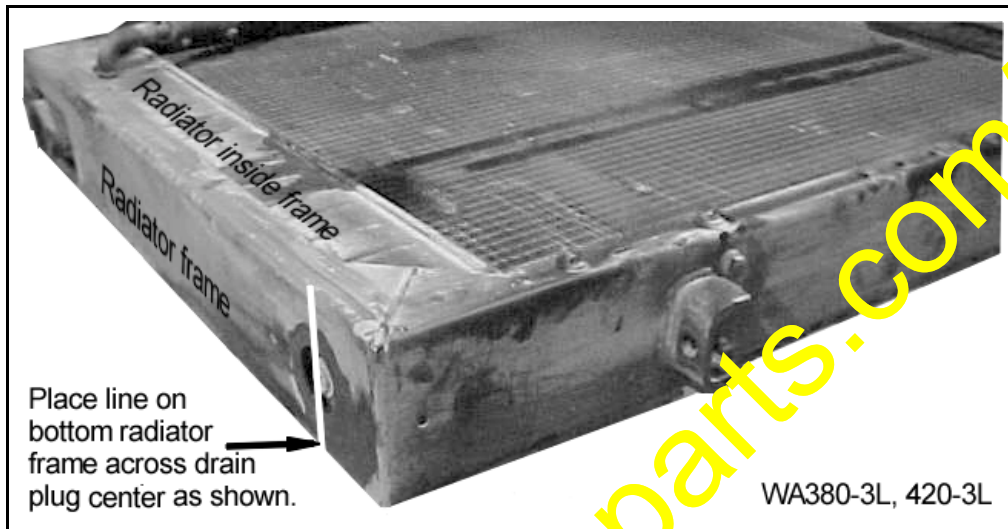

Figure 3 Radiator Frame Layout
1. As shown in Figure 3, draw a line through the center of the drain plug, front to back, on the bottom of the radiator frame. This line will be used for modification layout.